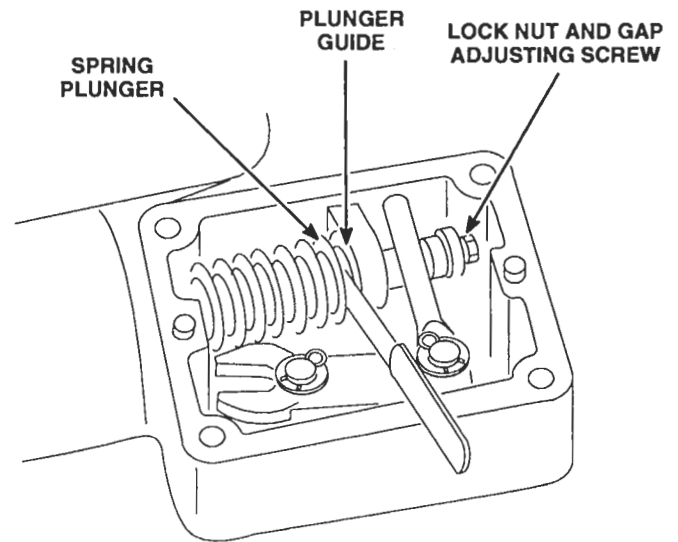

Figure 1. Adjusting Governor Cap
5. Place the speed control lever in the maximum speed position (Figure 1.)